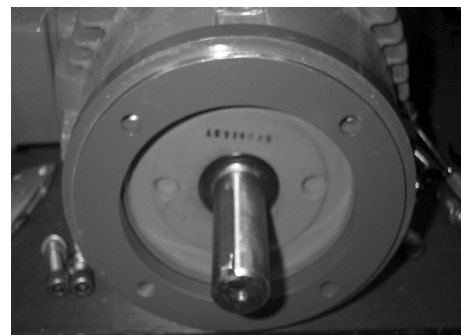

Fig 1
2. Insert key into motor keyway. (See Figure 1). Visually determine key location in pump end. Align keyway slots on motor shaft and pump impeller sleeve. Slide pump assembly over the motor shaft until the pump motor adapter (item 8 for AC6 or 22 for AC8) is completely seated over the motor rabbet. Install 4 bolts with flat washers and lock washers (items 9, 10 & 11 for AC6 or 19, 20 & 21 for AC8) through the face of the motor & into the motor adapter. Securely tighten bolts using the torque specifications in the table below.
3. Lubricate o-ring of self-sealing bolt (item 6) with suitable, compatible lubricant. Insert self-sealing bolt through shipping plug and into the eye of the impeller using a deep well socket. Insert a screwdriver into the motor fan to prevent motor shaft from rotating. Securely tighten bolt using the torque specifications in the table below.